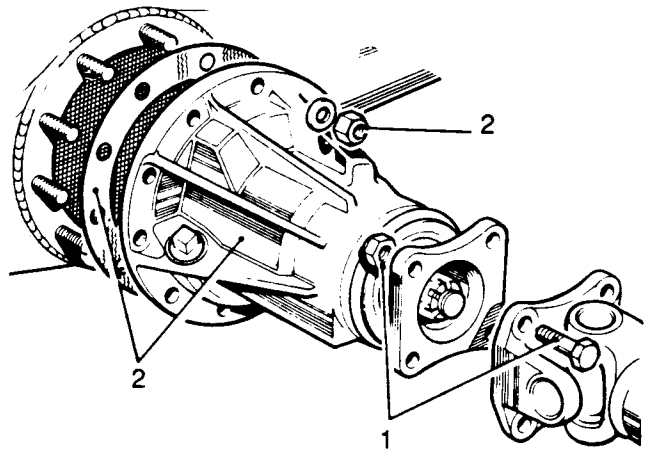

Fig J2.13
- (10) Refer to Fig J2.13. Disconnect the prop shaft (1) and move it clear of the differential.
- (11) Remove the differential assembly fixings (2) and withdraw the assembly.